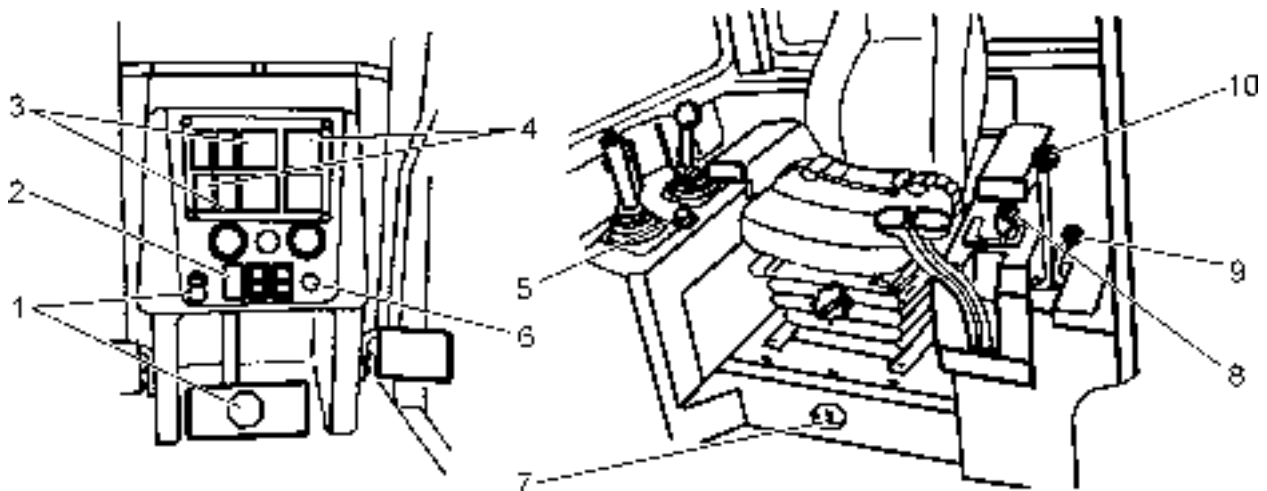

Fig. 4.13. Starting the Engine
4.6.1. NORMAL START (temperature above 0 [°C]) (Fig. 4.13)
4.6.2. ETHER INJECTOR START (temperatures below 0 [°C]) (Fig. 4.13).
3. Perform steps from items 8 through 10. Refer to "NORMAL START"
4.6.3. ENGINE START AFTER OIL CHANGE OR PROLONGED STANDSTILL (over 5 days) (Fig. 4.13).